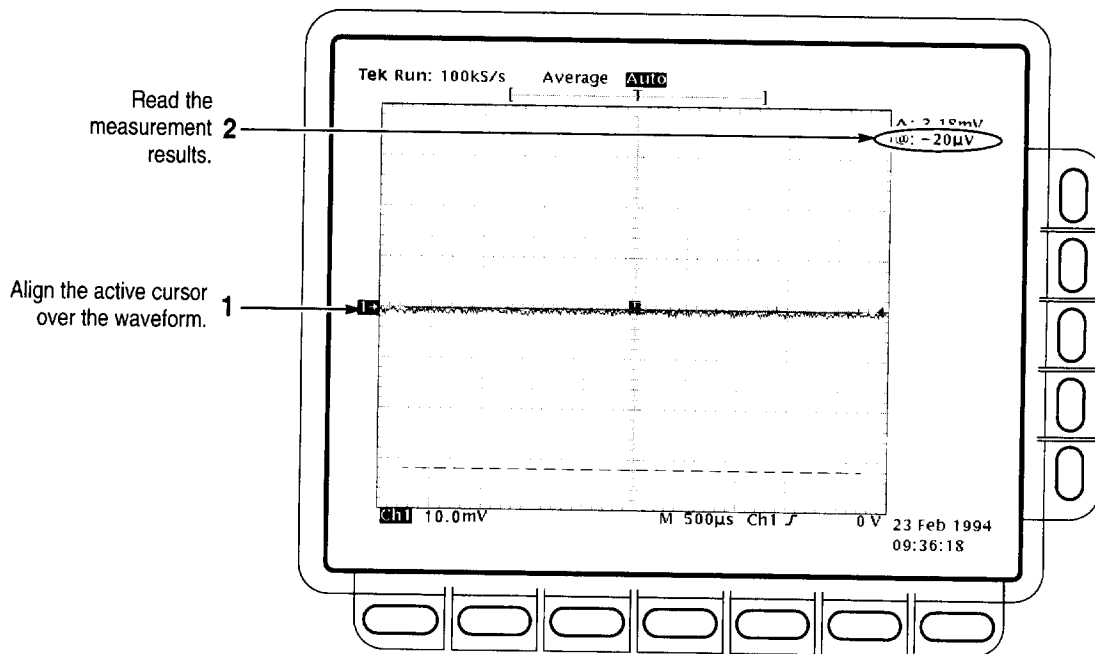

Figure 1–4: Measurement of DC offset accuracy at zero setting – TDS 684C shown
- e. Read the measurement results at the absolute (@:) cursor readout, not the delta (Δ:) readout on screen. That is, read the offset relative to the ground reference. See Figure 1–4.